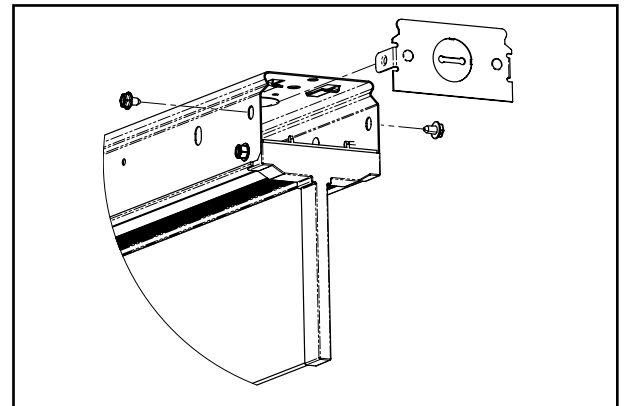

Figure 1.
1. Remove the two screws attaching the metal end plate as shown (Figure1). Discard the end plate but retain the screws for use later.